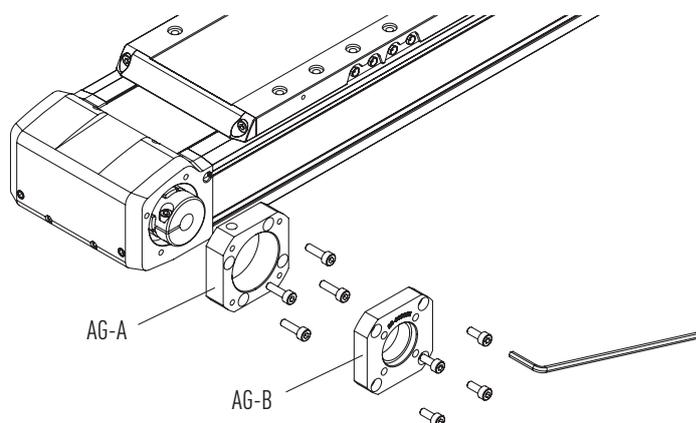

Fig. 6.76 Mounting the two-part gear adapter plate AG-A and AG-B – HT100B
- ▶ Attach the first part of the gear adapter plate (AG-A) so that it lies flat (see Fig. 6.76). In doing so, note the position of the hole for the clamping hub's clamping bolt.
- ▶ Attach the second part of the gear adapter plate (AG-B) onto the first piece (AG-A, see Fig. 6.76).